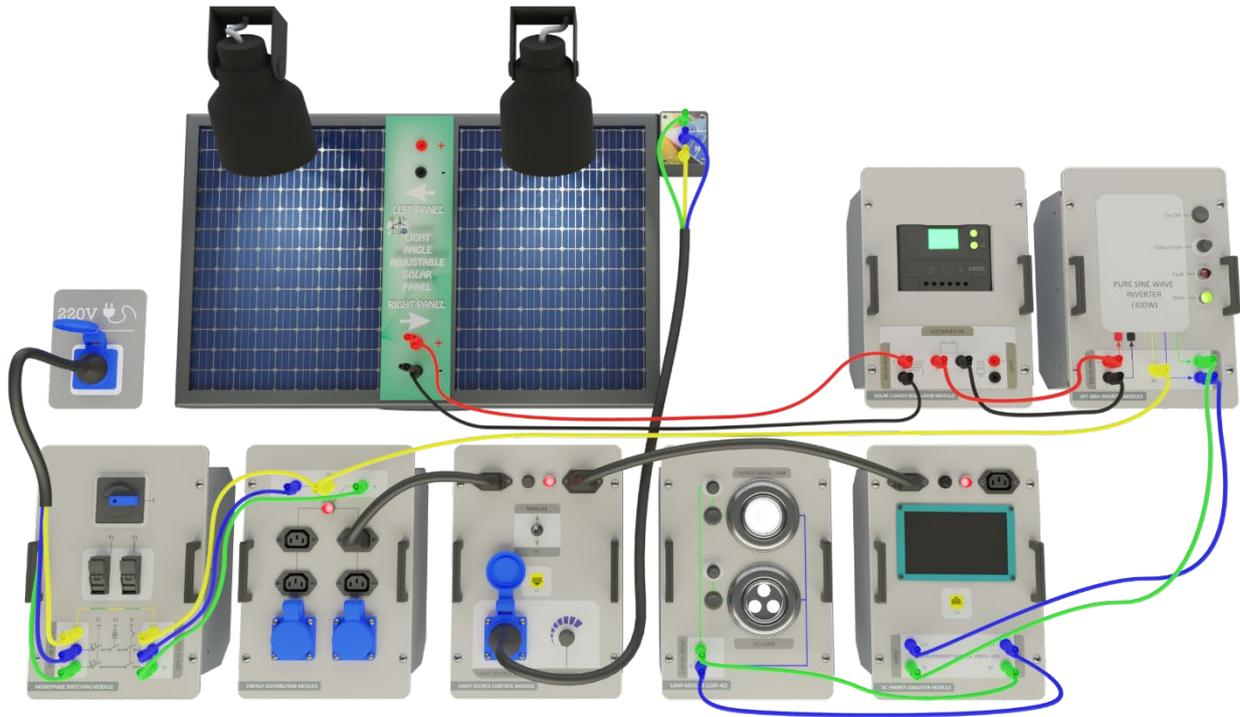

Figure-65. Installation Image of Examination of Measurement of Off-Grid Inverter Output Signal with Energy Analyser
- Set up the connection as specified in Figure-65. Maintain a constant level of light in the laboratory by creating an average lighting scenario. Note that any changes to the positions of lamps or curtains will affect the experimental results.
1. Set up the connection as specified in Figure-65. Maintain a constant level of light in the laboratory by creating an average lighting scenario. Be aware that any changes to the positions of lamps or curtains will affect the experimental outcomes.